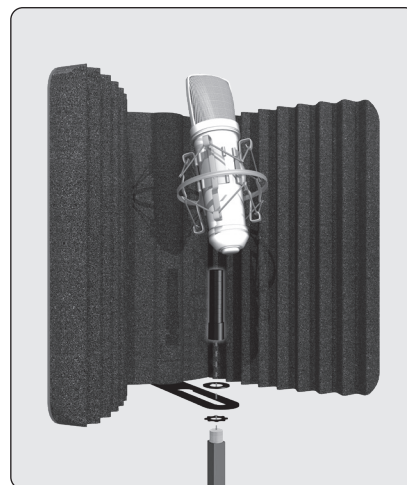

Figure 1
- The **MudGuard v2** mounting bar, microphone and extension tube (if required) can be attached directly to the top of the mic stand using a star nut and a flat washer as shown in **Figure 1**.